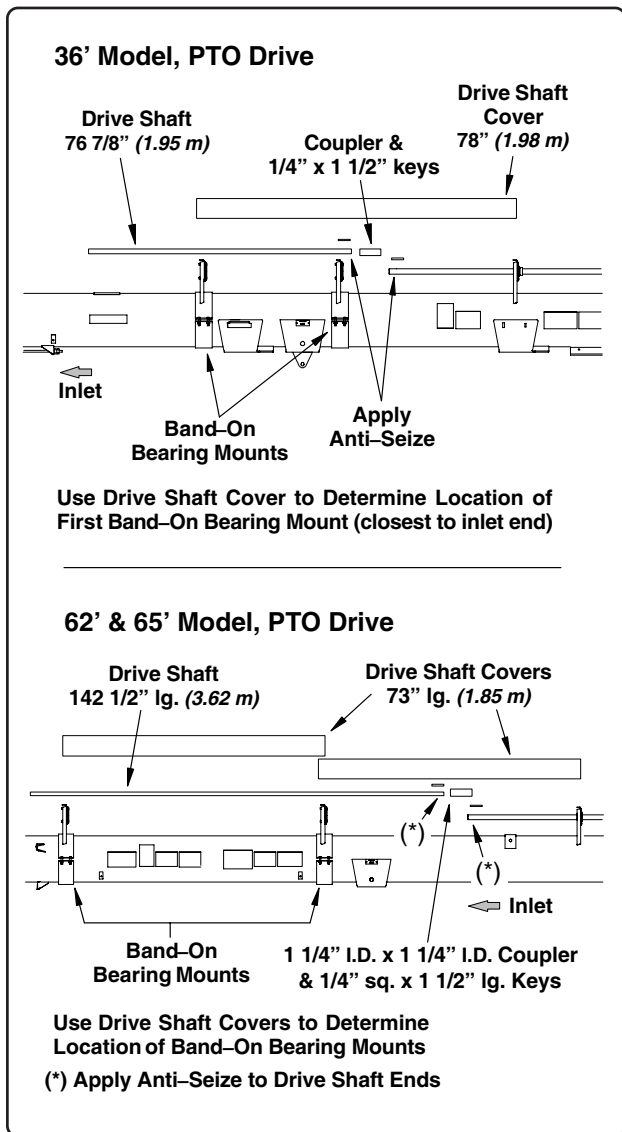

Fig. 27
1. Loosely fasten the band-on bearing mounts onto the auger housing at the approximate locations shown in Fig. 27 (the bearings will be positioned towards the discharge end of the auger).